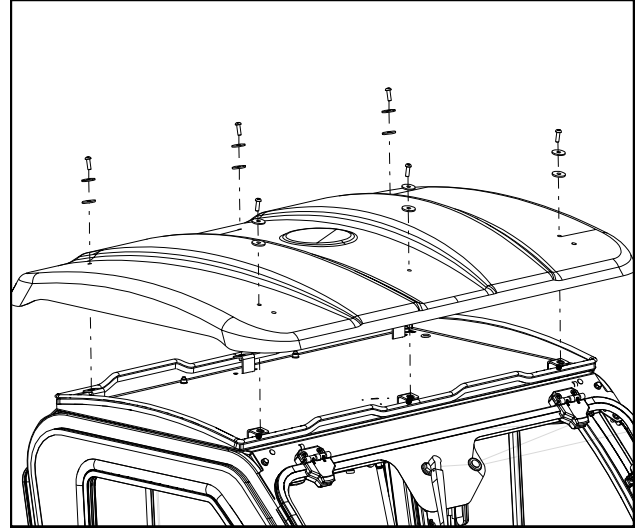

Fig. 1.1
- 1.1 Remove the plastic roof from the metal roof pan by removing the 6 button head bolts, metal fender washers and rubber fender washers, keep this hardware for reuse. See figure 1.1.